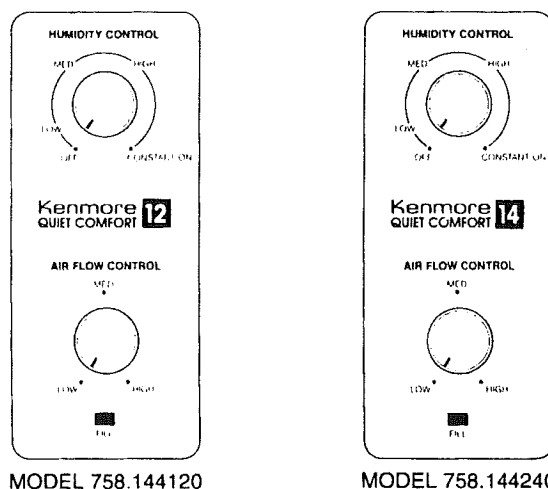

Figure 10
This control adjusts the amount of humidity depending on user's needs. The humidifier will turn on and off as required to maintain level of humidity you select. (See Fig. 10) Medium setting is recommended but there are times when a low or high amount of humidity may be preferred. For constant operation of humidifier. Constant On allows for the maximum amount of humidity to be evaporated into the air continuously.
The higher the air flow speed, the faster humidified air is released into the air. Low speed is the quietest and is provided for conditions that may not require as high an evaporation rate. (See Fig. 10)
When unit has a small amount of water left in it, a red fill light will come on and unit will shut off. (See Fig. 10)
2. Set Air Flow Control knob to **Low** or number 1 position. (See Fig. 10)